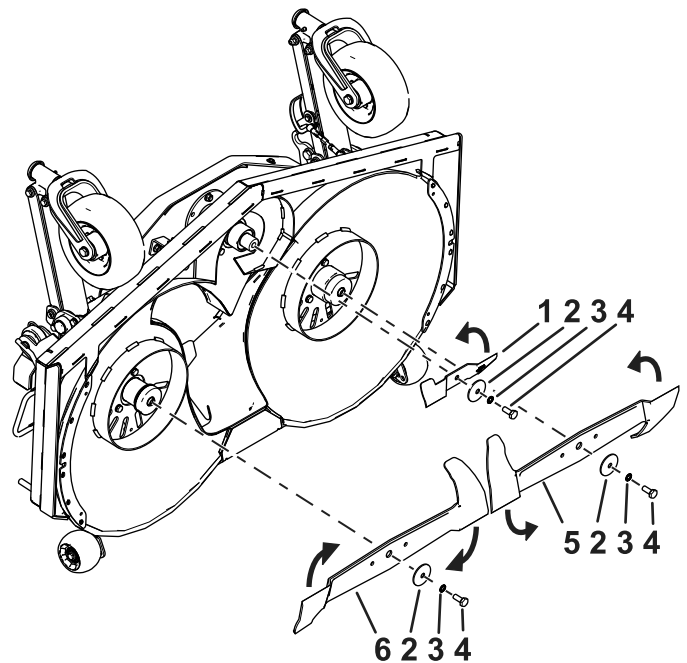
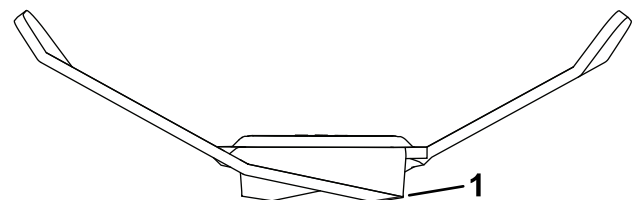

Figure 88
Figure 89
2. Inspect the cutting edges (Figure 88 and Figure 89).
2. Remove the blade bolt, spring lock washer, curved washer, and blade from the spindle shaft (Figure 88).
1. Use a file or sharpening tool to sharpen the cutting edge at both ends of the blade (Figure 89).
Note: Refer to Figure 88 for the correct blade rotation and installation.
2. Install the blade using the previously removed blade bolt, spring lock washer, and curved washer (Figure 88).